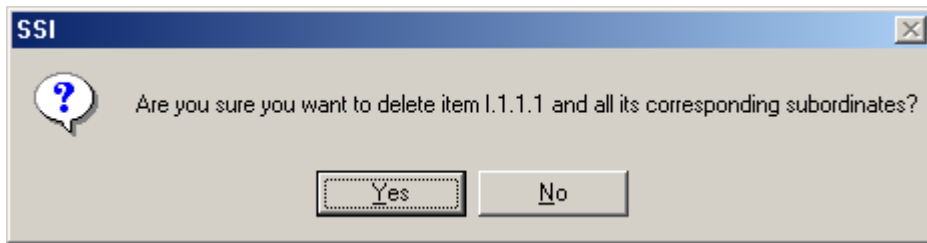

Figure 9. Confirmation box for deleting an item
- Click “Yes” if you are sure that you want to delete the item (see Figure 9).